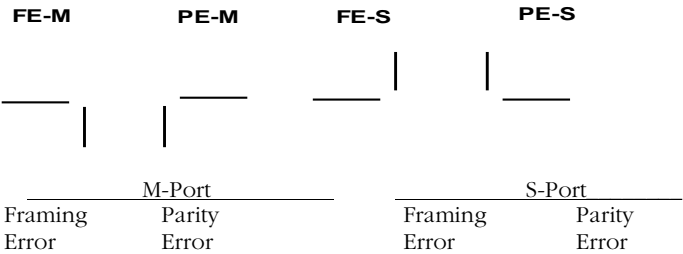

Figure 3-1. Port Display Error Indications
When a Framing Error (FE) or Parity Error (PE) is detected, the Port Display is multiplexed to show the port address for approximately one second, and then an error symbol (reference Figure 3-1 below) for the same period of time. This alternating display remains for approximately five seconds and then returns to the normal display, providing that there are no additional errors detected.